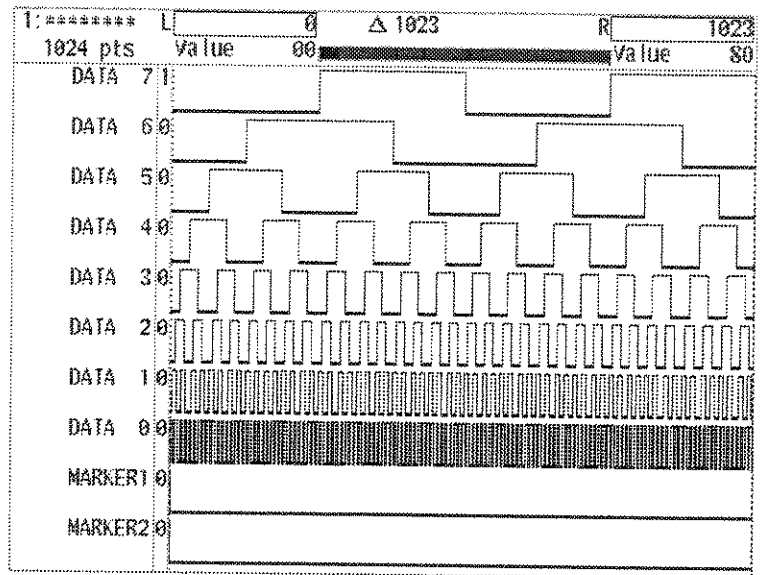

Figure 4A-82: Gray Code Pattern Display
- **Gray Code** — A data pattern is created in which the difference between adjacent data is only 1 bit. When the 256 items of 8-bit data end, the data repeats again from the beginning. In the example shown in Figure 4A-82, the waveform point size has been set to 1024 and **Step** has been set to 2. The pattern is repeated twice. Only the **Step** parameter is set for the **Gray Code** pattern option.